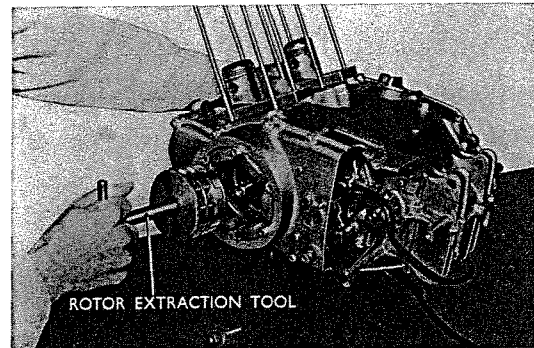

Fig. 3.44 Removing AC generator rotor
- (c) By removing the generator rotor bolt, dismount the rotor from the crankshaft by use of a generator rotor puller. (Refer to Fig. 3.44)